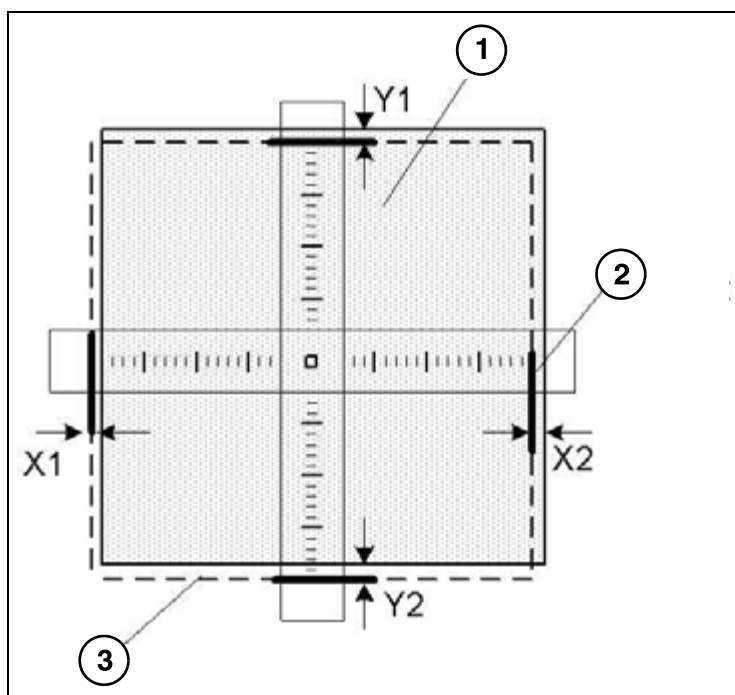

Fig. 14: Light / radiation field 1
- Mark the edges of the light field with radiation attenuating material (soldering wire) (Fig. 14 / p. 26).